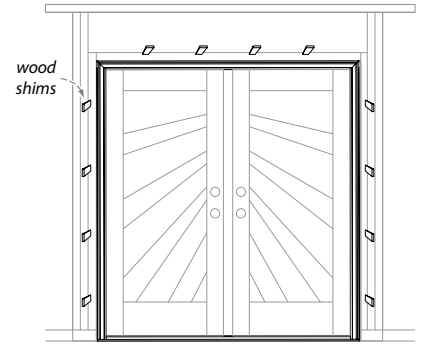

Figure 11
- With both doors shut, install wood shims behind predrilled holes making sure all areas have equal spacing between door and frame (figure 11). Frame should also be flush with the door from top to bottom. The interior of doors panels should be flush with each other before installing any additional screws. If the panels are not flush, adjust the bottom or top of each side jamb to line up the panels. Once all shims are in place with proper alignment, install all remaining screws.